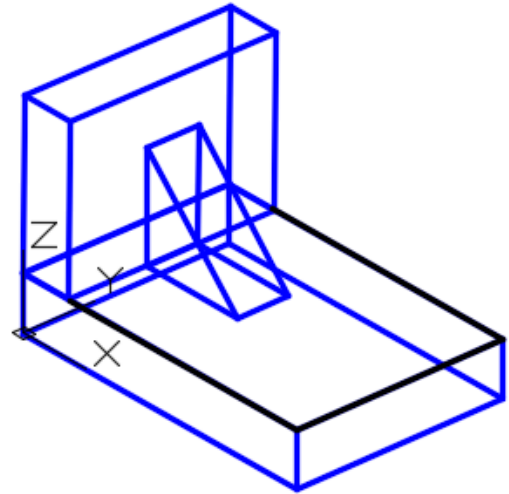

Figure Step 8
Step 8 Draw three construction lines on the edges of the box. (Figure Step 8)